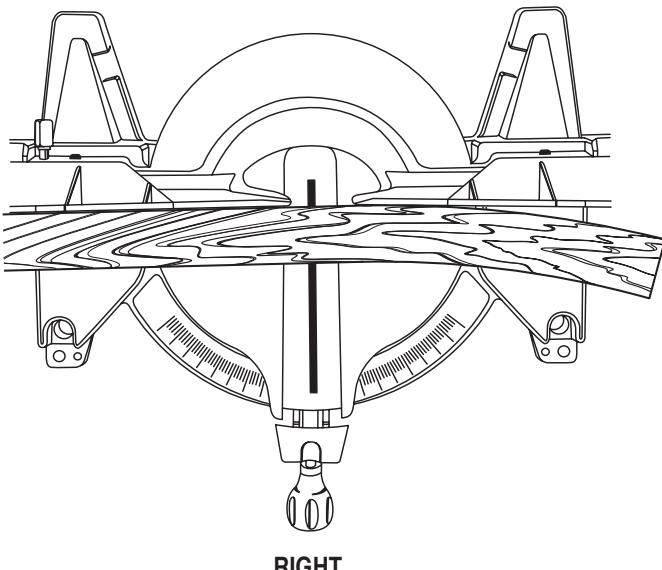

Fig. 30
- Place the workpiece flat on the miter table with one edge securely against the fence. If the board is warped, place the convex side against the fence. If the concave edge of a board could collapse on the blade at the end of the cut, jamming the blade. See *Figures 30 and 31*.
See Figures 30 and 31.
When cutting warped material, always make sure it is positioned on the miter table with the convex side against the fence as shown in figure 30.